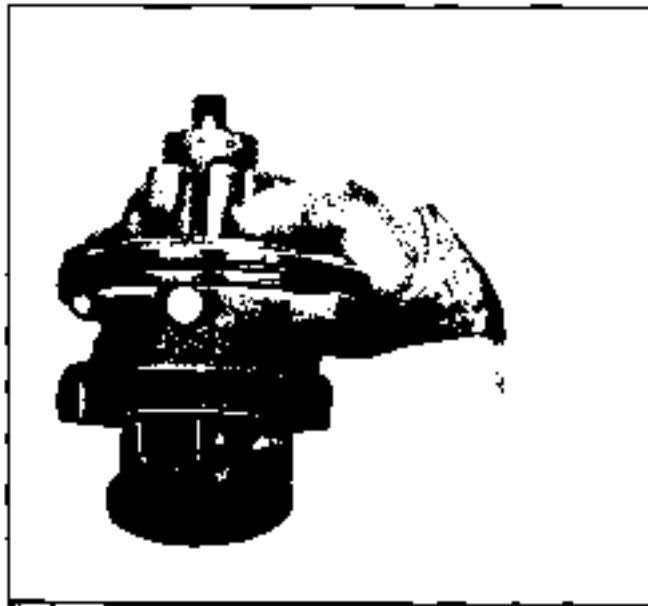

Fig. 9-88 Pressure Plate and Rotor Ring Removed
9. Remove pressure plate, pump ring and vanes, being careful not to drop parts (Fig. 9-88).
1. Position pump assembly on mounting bracket with holes lined up and install bolts loosely (Figs. 9-88 and 9-89).